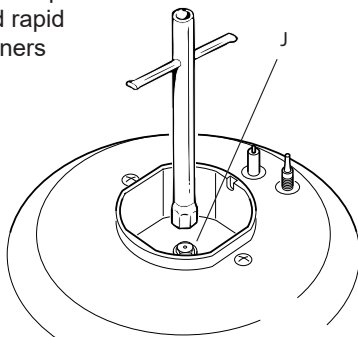

Fig. 2.2
- Using a wrench, substitute the nozzle injectors “J” (figs. 2.2) with those most suitable for the kind of gas for which it is to be used.